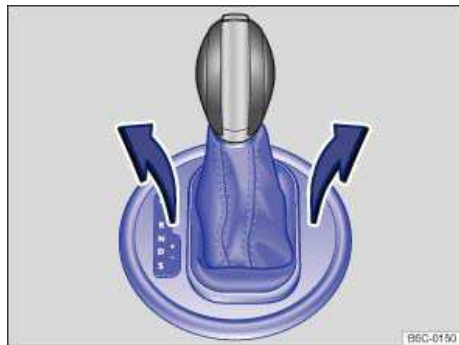

Fig. 151 Removing the selector gate cover.
- Pull upward on the cover around the selector lever sleeve ⇒ fig. 151.